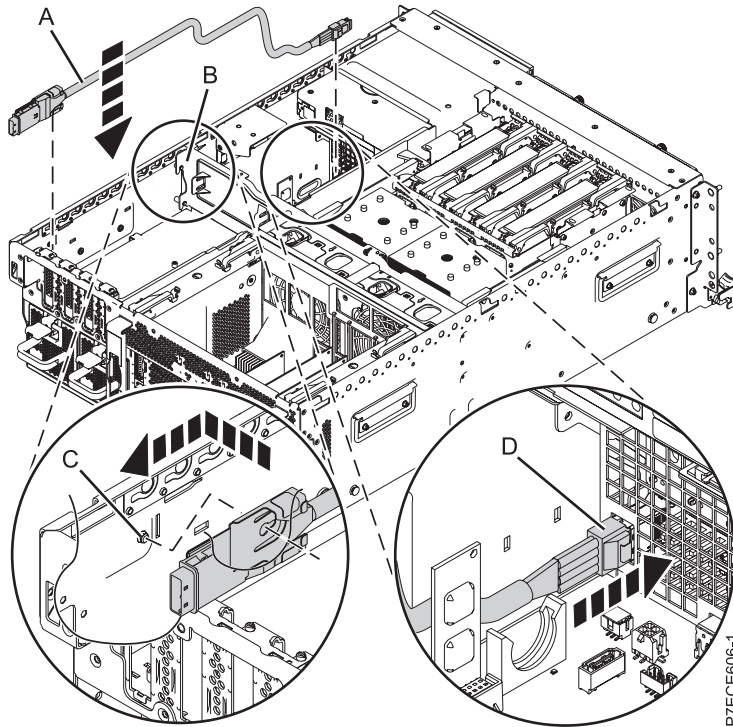

Figure 28. Replacing the SAS cable
3. Connect the SAS shroud of the SAS cable (**A**) to the external SAS connection port on the system backplane, at the rear of the system, until it snaps in place, as shown in Figure 28 on page 50.